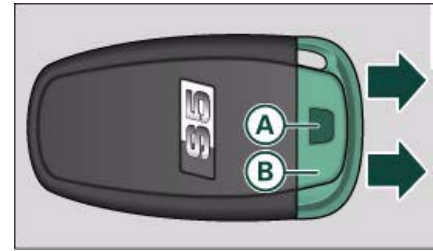

Fig. 31 Remote control key: Removing the emergency key
- Press the release button (A) ⇒ fig. 31.
- Pull the emergency key (B) out of the remote control key.